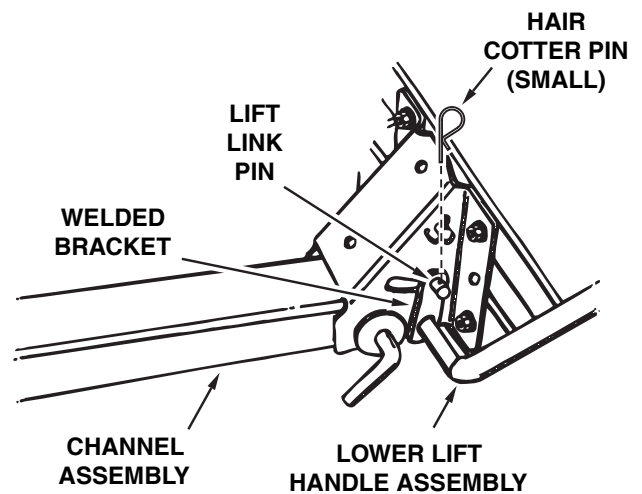

Figure 4
10. Insert the end of the lower lift handle assembly through the notch in the pivot support bracket and through the holes in the channel assembly. Align the lift link pin with the hole in the welded bracket on the lower lift handle assembly. Insert the lift link pin through the hole in the bracket and secure it with a small hair cotter pin. See figure 4.